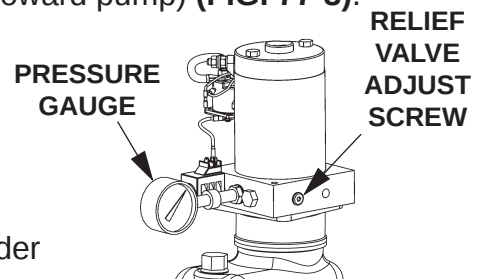

FIG. 77-2
9. With Platform on the ground, remove the pressure hose and fitting from Pump and replace it with a 0-3000 PSI Pressure Gauge. Hold the Control Switch in the "RAISE" position. Adjust the Relief Valve on the side of the Pump until the gauge shows 2800 to 3000 PSI (**FIG. 77-2**). Remove gauge and reinstall pressure hose.